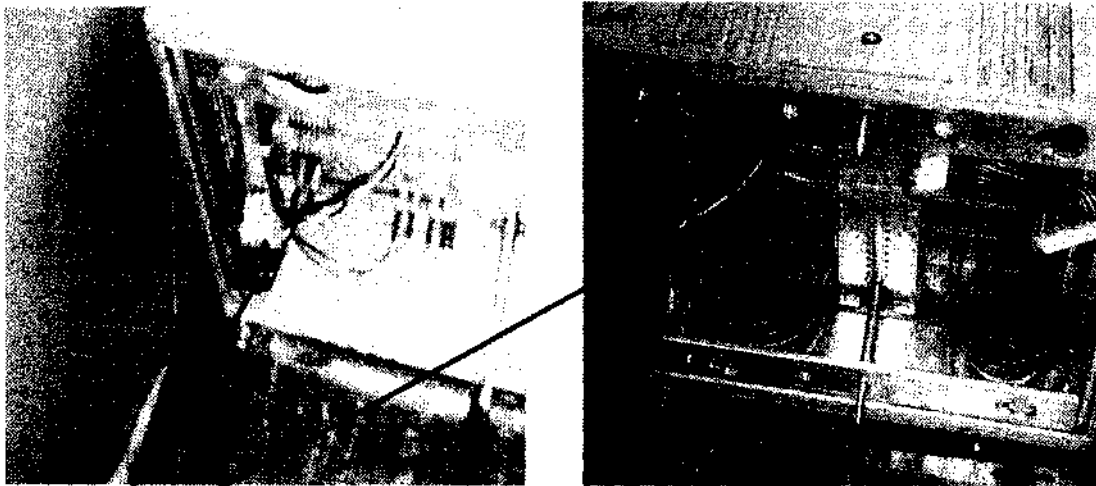

Figure-6
- 2.5 In older cards, a blue colour marking was done on connector X305 to avoid wrong connection which is shown in figure-6.